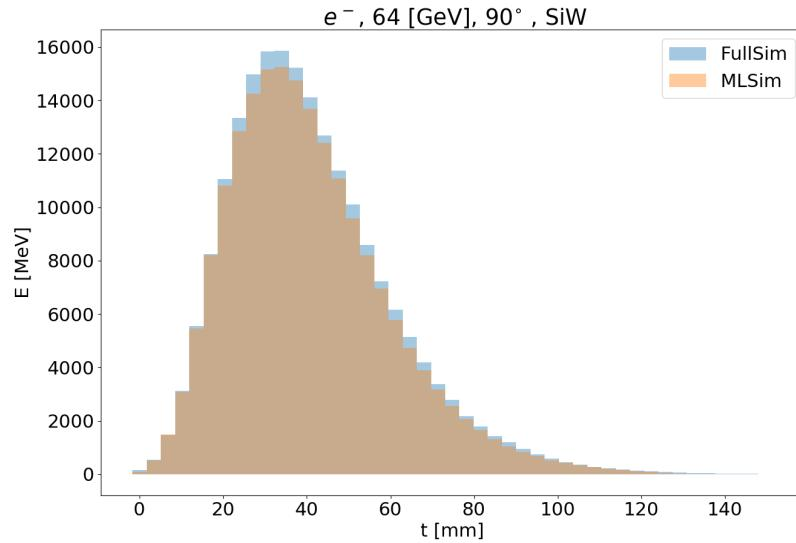
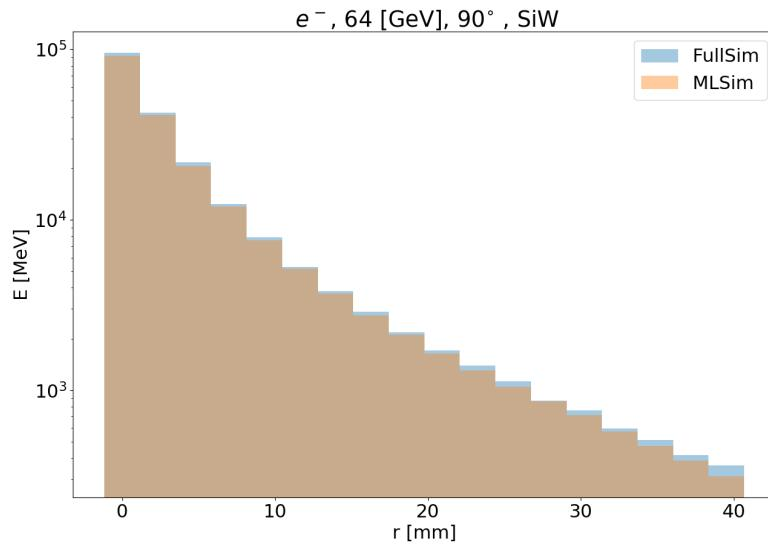

Fig. 10.3: Longitudinal profile for 64 GeV electrons.
Fig. 10.4: Transvers profile for 64 GeV electrons.
The three figures below show the validation plots comparing the full simulation to the (ML) fast simulation after using the inference with ONNX. The plots show the longitudinal (Fig. 10.3), transverse profiles (Fig. 10.4) and simulation